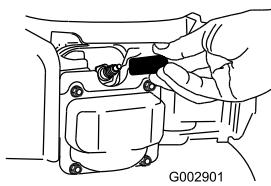

Figure 22
- Disconnect the spark-plug wire from the spark plug (Figure 22) before performing any maintenance procedure.